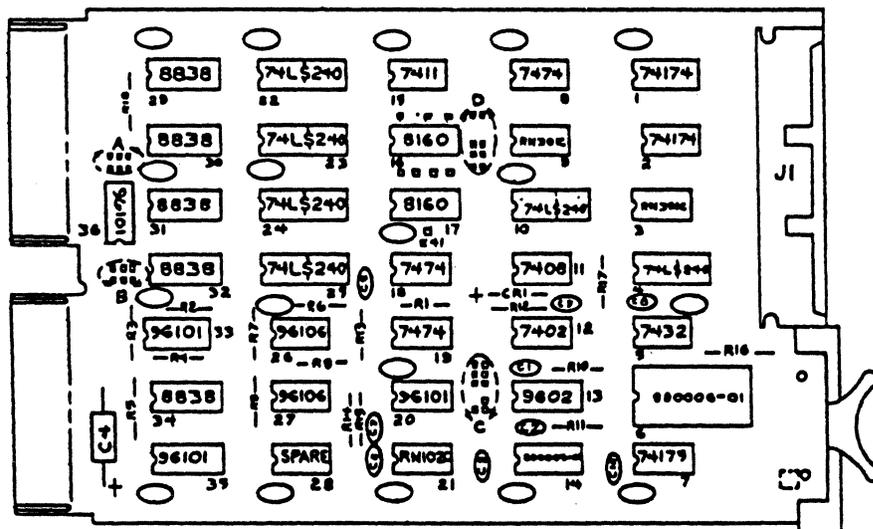

Figure 2-8. LSI-11 Interface Card
- c. Plug the WINC-08 dual wide interface card (see Figure 2-8) into the next available dual wide slot (either left or right hand).